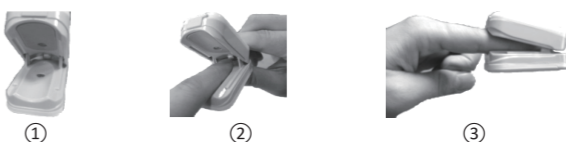

Figure 4: measurement
- Open the clip of PULSE OXIMETER, See figure 4. ①.
- Place a finger on the silicone pad. The recommended application sites include index finger, middle finger and ring finger. Appropriate fingers for accurate measurements are within a size range of 8.5-24.3mm thick. Ensure the finger position is correct that the LED (irradiance) window against finger prominence and the accepting window against finger lunula), see figure 4. ②, and then clip the finger, see figure 4. ③.
- The finger should be placed properly (see figure 4 of this manual), or else it may cause inaccurate measurement.